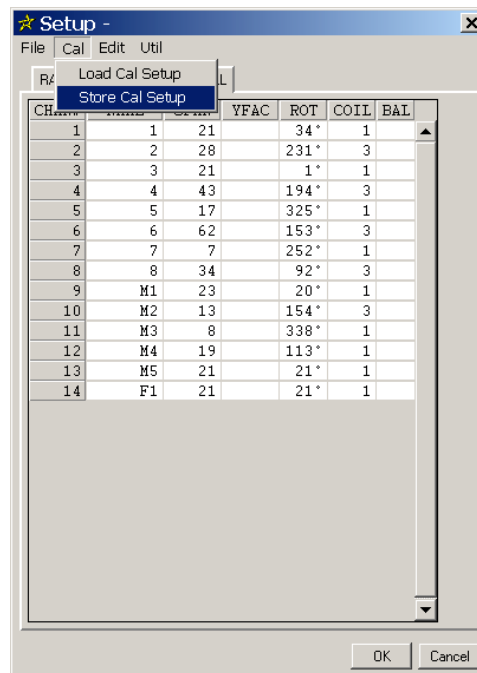

Figure 10-21. Setup Dialog - Storing the Cal Setup
- STEP 35:** As shown in Figure 10-21, select **Cal | Store Cal Setup**. A message appears in the **Status Bar** at the bottom of the main acquisition screen showing the name of and where the **Setup** file was saved.